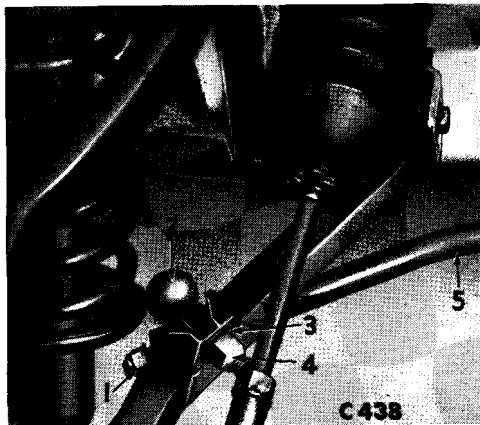

Fig. 9. Anti-roll bar attachment to lower wishbone
5. Re-connect the anti-roll bar link (2) to the lower wishbone and secure with a washer (3) and nyloc nut (4), Fig. 9.
3. Remove the grease cap, split pin (62), slotted nut (61) and washer (60), then detach the hub assembly from the stub axle (52). Dismantle the hub as described on page 4-116.
4. Release the tabwasher (48) and remove four bolts, tabwasher, washers and nyloc nut securing the steering arm (28), brake backing plate (47), or caliper mounting bracket and dust shield to the vertical link (18).
5. Remove nyloc nuts (14) and bolts (11) securing the inner ends of the upper wishbones to the sub-frame.
6. Release the anti-roll bar from the lower wishbone (Fig. 9). Remove nyloc nuts (29) and washers (30) and detach the lower wishbone brackets (32) from the chassis frame. Note the number and disposition of the shims (31).